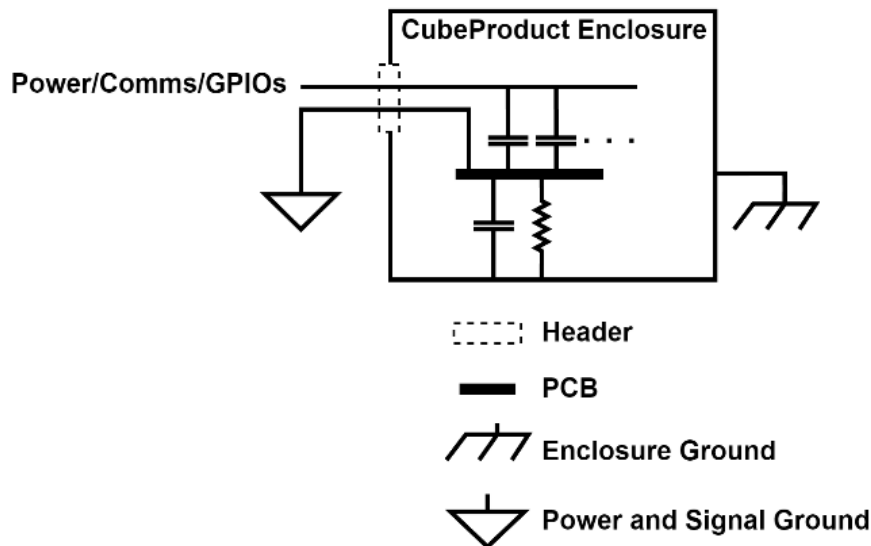

Figure 42: Generic Grounding Diagram
The enclosure and mechanical parts of CubeADCS are connected to the power and signal ground through a filter designed to minimise EMI, as illustrated by Figure 42. The user can ground the enclosures of the CubeADCS Core and the sensor and actuator nodes if desired.
- All pins that are externally exposed through headers are filtered by way of a 100pF decoupling capacitor to signal ground as shown in Figure 42.